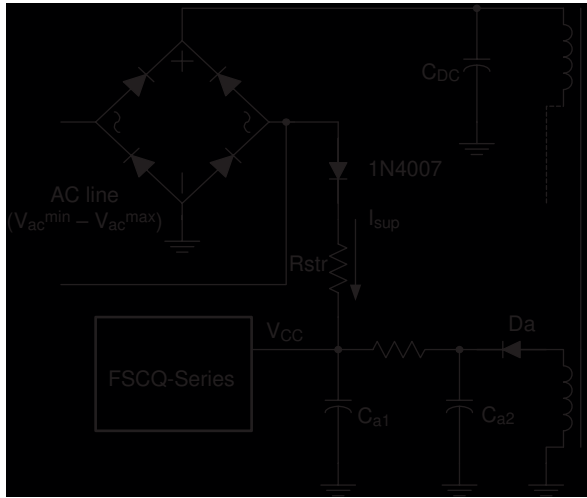
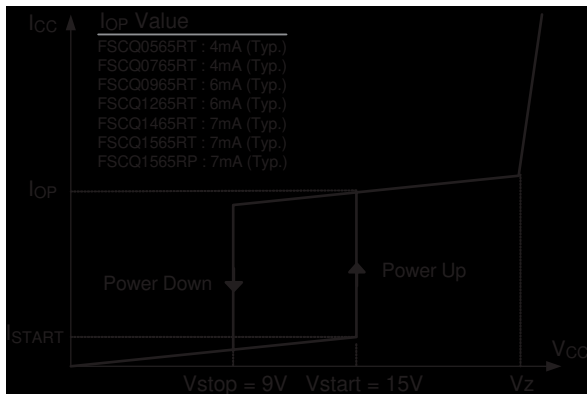

Figure 4. Startup circuit
Figure 5. Relationship Between Operating Supply Current and VCC Voltage
**1. Startup:** Figure 4 shows the typical startup circuit and the transformer auxiliary winding for the FSCQ-Series. Before the FSCQ-Series begins switching, it consumes only startup current (typically 25µA). The current supplied from the AC line charges the external capacitor (Ca1) that is connected to the VCC pin. When VCC reaches the start voltage of 15V (VSTART), the FSCQ-Series begins switching, and its current consumption increases to IOP. Then, the FSCQ-Series continues its normal switching operation and the power required for the FSCQ-Series is supplied from the transformer auxiliary winding, unless VCC drops below the stop voltage of 9V (VSTOP). To guarantee the stable operation of the control IC, VCC has under voltage lockout (UVLO) with 6V hysteresis. Figure 5 shows the relationship between the operating supply current of the FSCQ-Series and the supply voltage (VCC).